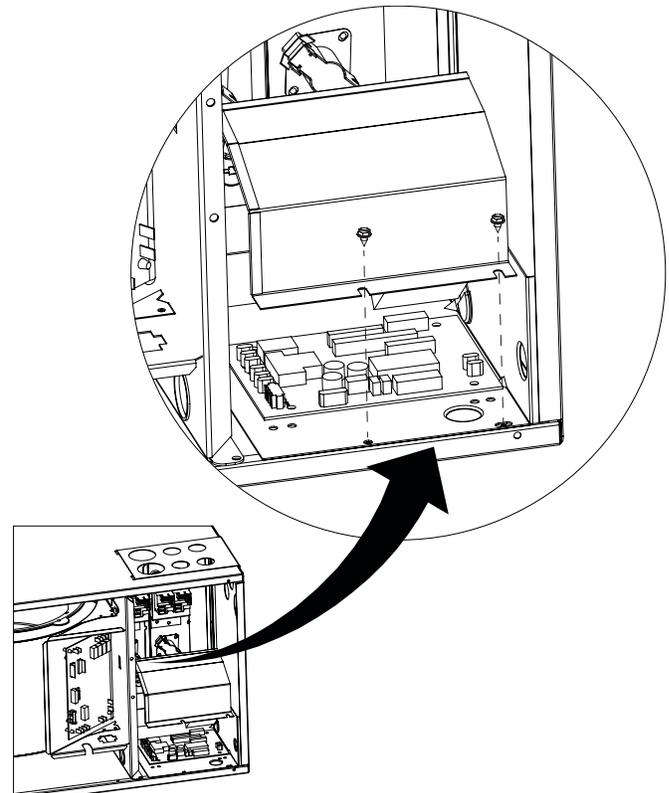

Figure 1. Installation of Drip Guard
4. Position the bracket in the air handler as shown in Figure 1. Verify the control board is covered and tighten the screws back down until bracket is secured in place.